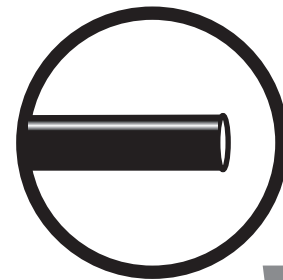

fig. 21
- a. Check the air line connection by deflating the spring and removing the line by pulling the collar against the fitting and pulling firmly on the air line. Trim 1" off the end of the air line. Be sure the cut is clean and square (see fig. 21). Reinsert the air line into the push-to-connect fitting.
2. If the preceding steps have not resolved the problem, call Air Lift customer service at (800) 248-0892.